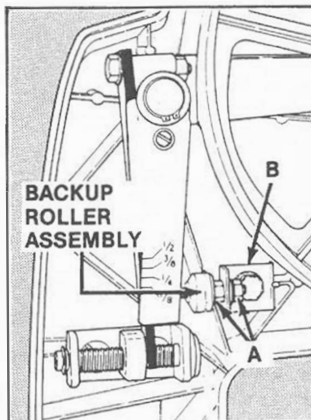
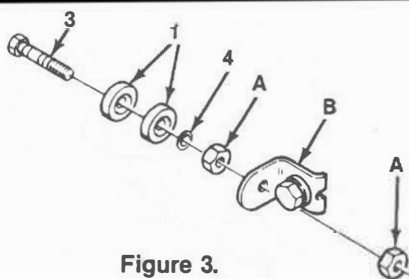

Figure 1.
Figure 3.
1. Remove outside nut (A), lock washer and washer. Remove backup roller assembly from bracket (B). (See Figure 1.)
3. **SAVE** the two nuts (A). Discard other parts of roller assembly.
4. Place auto-track roller bearings (1), lock washer (4) and nut (A) on shoulder screw (3). (See Figure 3.) Tighten nut.
5. Place roller bearing assembly through bracket (B) and add nut (A). Tighten nut.